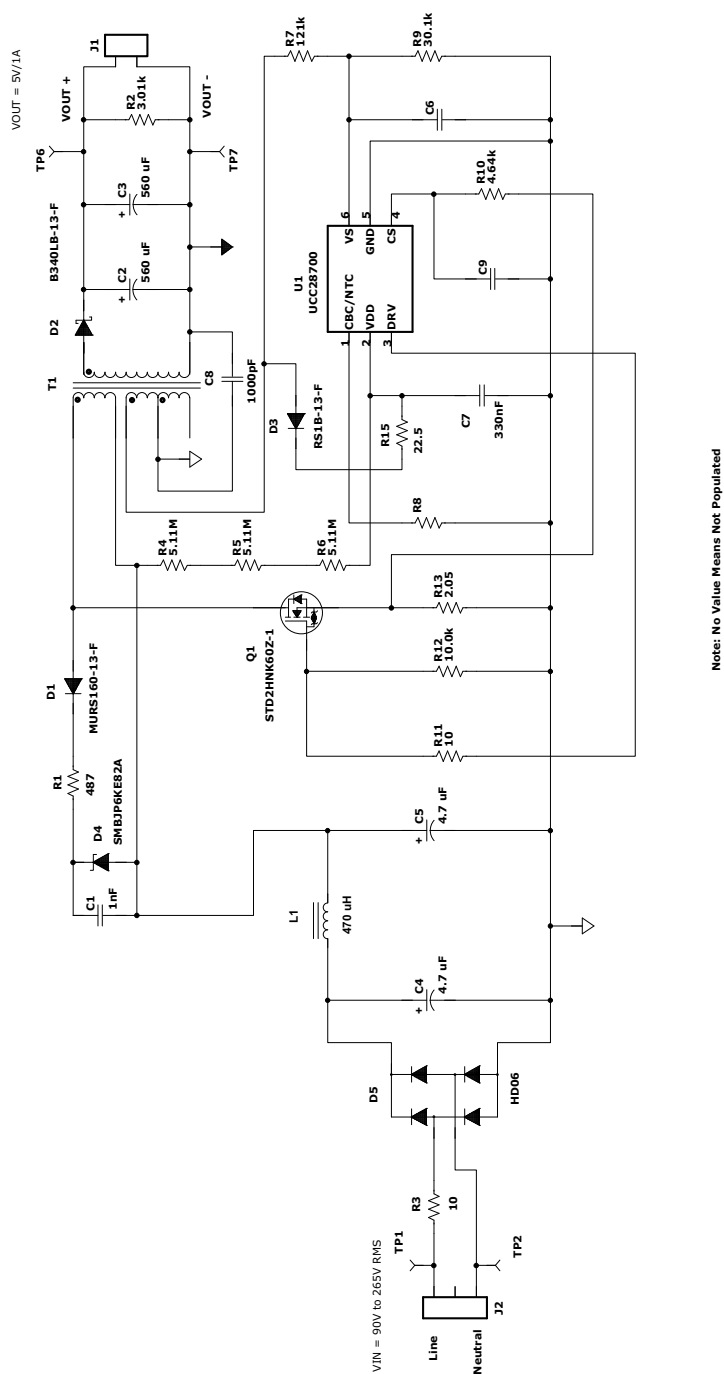

Figure 2. UCC28700EVM-068 Schematic
The EVM components list according to the schematic shown in Figure 2.
- Changed pin labels in Figure 2. 5